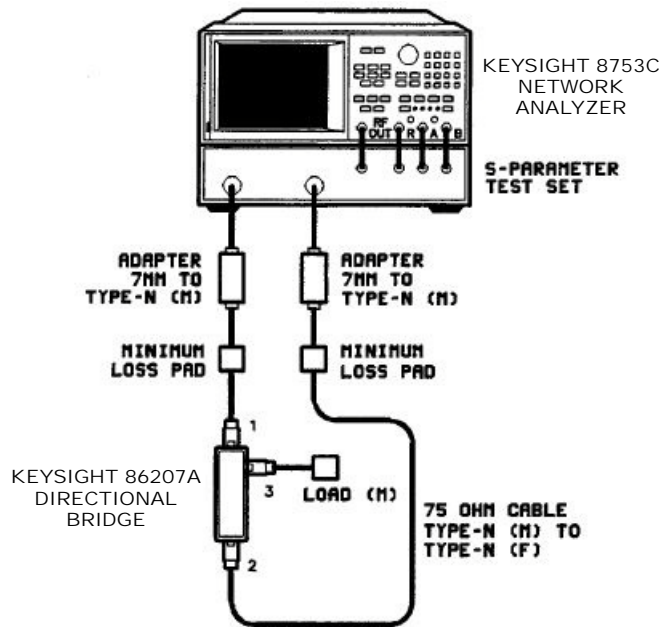

Figure 3-2 Equipment setup for insertion loss measurement
- Connect the equipment as shown in Figure 3-2.